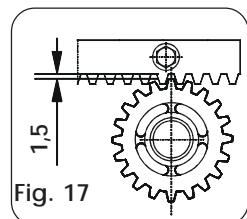

Fig. 17
- After installing the rack, to ensure correct meshing with the pinion gear, we advise you to lower the position of the gearmotor by approximately 1.5 mm (Fig.17).